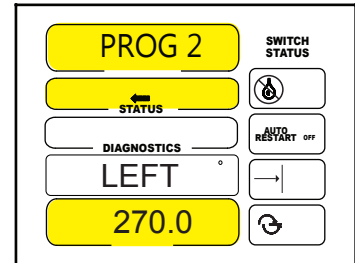

Figure 58-2
2. Set the left angle of the sector. See figure 58-2.